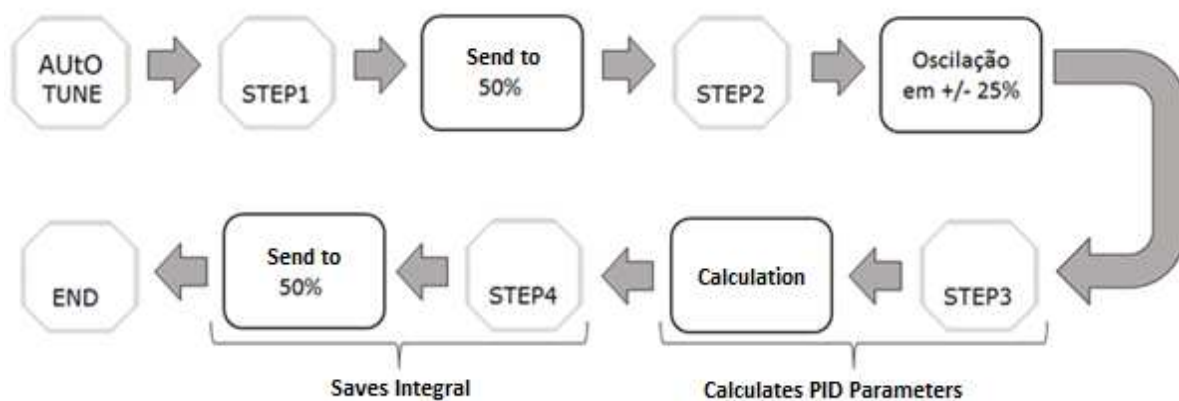

Figure 3.8 – Diagram for PID control tuning.
- **Auto Tuning:** performs the automatic tuning procedure of PID control, calculating the optimized values of the parameters Proportional (K_p), Integral (T_r) and Derivative (T_d) through data collected in repeated oscillations of the system (according to the applied pressure). Figure 3.8 indicates procedure steps.